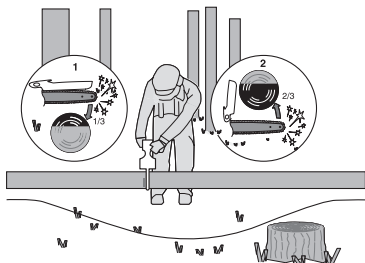

Figure 4
When the log is supported on both ends, as illustrated in Figure 4, cut 1/3 the diameter from the top overbuck (1). Then make the finished cut by underbucking (2) the lower 2/3 to meet the first cut.